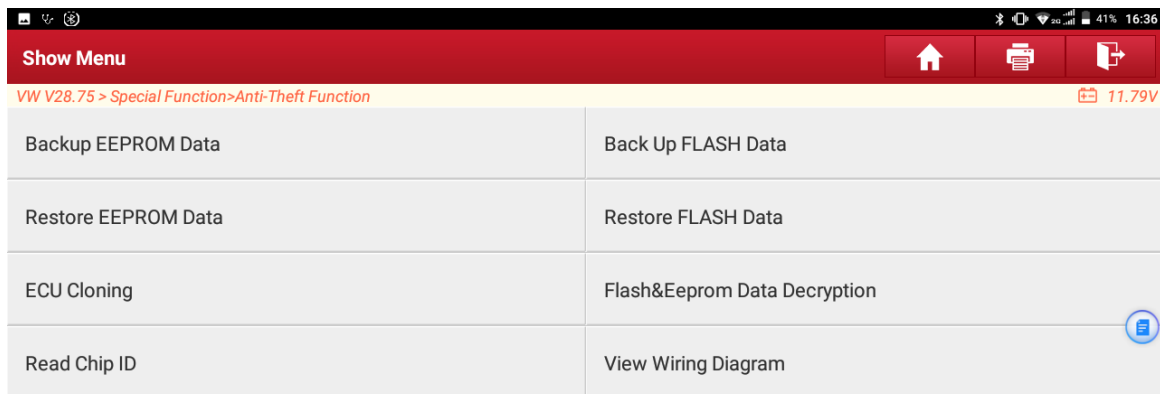

Figure 2
2. Select **【MED17.5.25 TC1782】** according to the type displayed on the label of original engine, and enter the function as shown in Figure 2;